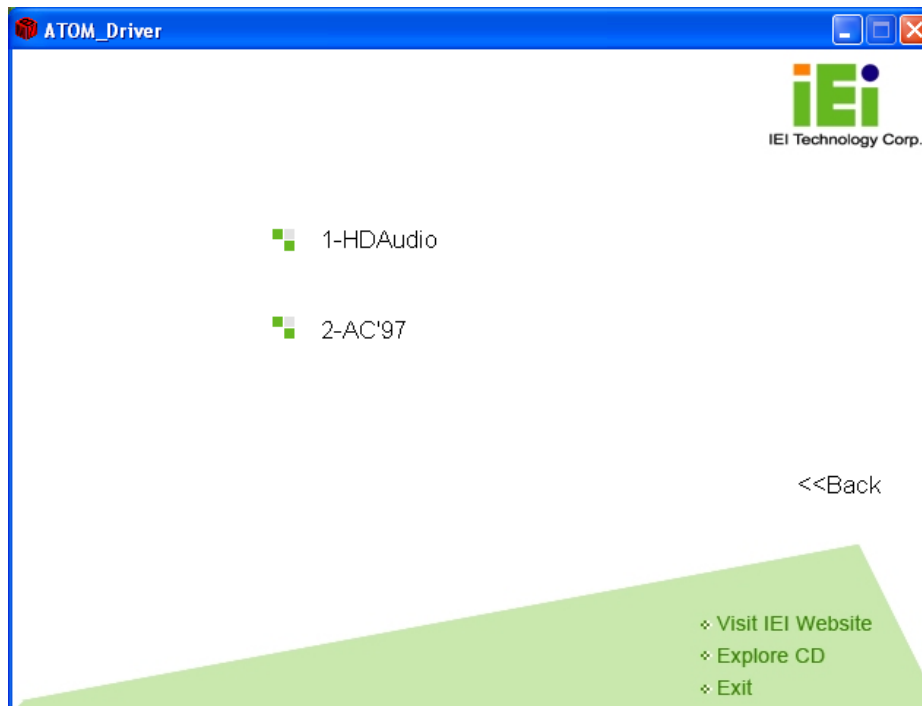

Figure 6-21: Audio Driver Options
Step 3: The screen in Figure 6-21 appears.
Step 1: Select "1-HDAudio" in Figure 6-21.
Step 1: Select "2-AC'97" in Figure 6-21